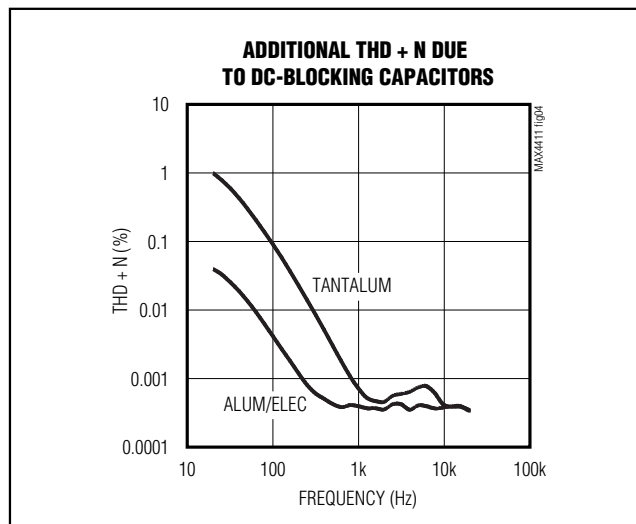

Figure 4. Distortion Contributed by DC-Blocking Capacitors
- 2) The voltage coefficient of the DC-blocking capacitor contributes distortion to the reproduced audio signal as the capacitance value varies as the function of the voltage across the capacitor changes. At low frequencies, the reactance of the capacitor dominates at frequencies below the -3dB point and the voltage coefficient appears as frequency-dependent distortion. Figure 4 shows the THD + N introduced by two different capacitor dielectric types. Note that below 100Hz, THD + N increases rapidly.